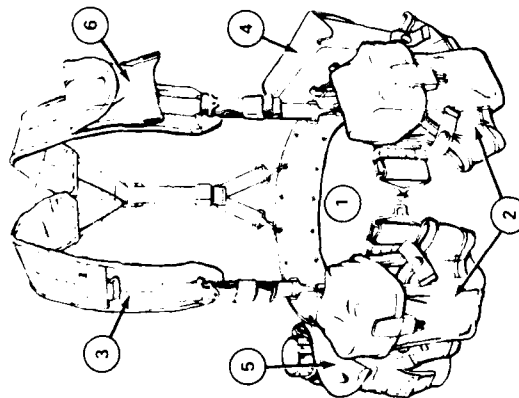
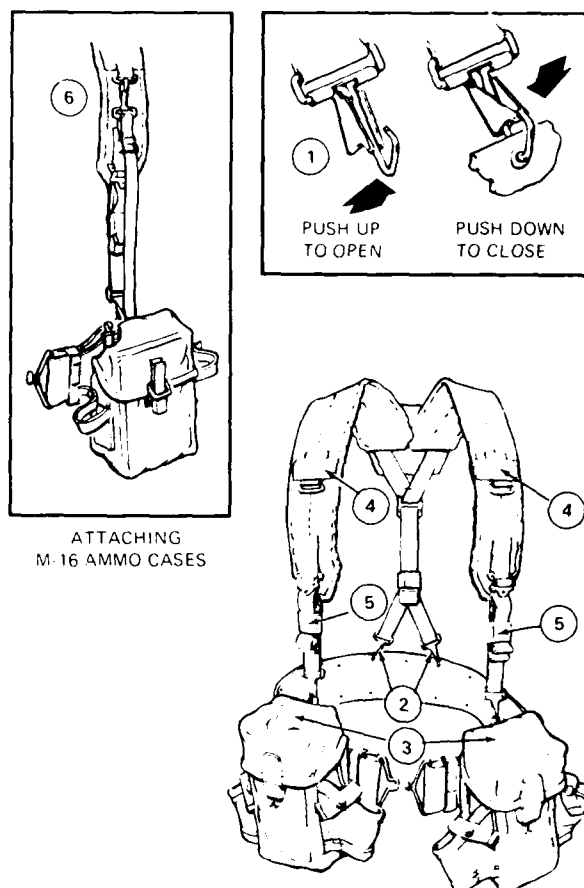

Figure 2-2.—Load carrying equipment.
Figure 2-5.—Attaching the suspenders to the ammo pouches and pistol belt.
Fighting load-carrying equipment consists of the items illustrated in figure 2-2 and described below. Each item has been designed to make the job of carrying the equipment you will need easier and more comfortable. There are certain rules, however, that must be followed if the equipment is to do the job for which it is intended. If the rules listed below are followed, individual loads can be carried with more ease and comfort.
1. Pistol Belt (item 1 of fig. 2-2). The olive drab cotton-webbed pistol belt, M1956, has a special ball-type fastener which makes the belt easier to put on and take off. The belt uses eyelets for attachment purposes and has sliding keepers to prevent the belt hooks from becoming unfastened after adjustment to the wearer's waist. The pistol belt helps to carry the entrenching tool and carrier, the ammunition pouches, the canteen and cover, and the first aid or compass case. It is issued in two sizes, medium and large. Medium is the size for waist measurements under 30 inches; large is the size for waist measurements of 30 inches or more. The proper-sized belt can be adjusted to fit over all layers of outer clothing including the armored vest.
2. Ammunition Pouches (item 2 of fig. 2-2). Each small arms ammunition pouch is 4 1/4 inches wide, 6 1/4 inches high, and 2 1/2 inches deep. Plastic stiffeners are provided in the back of each pouch so that clips of ammunition can be easily inserted and removed. There are two attaching clips and supporting straps on the back of the pouch so that they can be fastened to the pistol belt and to the suspenders. (See fig. 2-5.) Both sides of each ammunition pouch have attachments for carrying hand grenades. The pouches are designed to carry any of the basic loads of ammunition; however, with special
3. Suspenders (item 3 of fig. 2-2). The olive drab, cotton-webbed suspenders, with the pistol belt, make up the basic individual fighting load-carrying equipment as the remaining components are suspended from them. The suspenders can be adjusted by means of the clamp-type buckles. Suspenders are issued in three sizes: regular, long, and extra long. If you are under 68 inches tall without shoes, wear the regular size. If over 68 inches, wear the large. If you are tall or broad chested, or intend wearing them over outer garments or the armored vest or both, wear the extra large. In any case, if you have the time, you should try them on first.
4. Entrenching Tool Carrier (item 4 of fig. 2-2). The entrenching tool carrier is made of olive drab, cotton duck material and is attached to the pistol belt by means of two attaching clips located on the back.
5. Canteen Cover (item 5 of fig. 2-2). The cotton duck canteen cover has either a pile or felt lining and is attached to the pistol belt by means of two attaching clips located on the back of the cover. The canteen cover accommodates the canteen and canteen cup. During warm weather, the lining should be kept wet to help keep your water cool. The cover should be kept dry during cold weather, as the lining provides some protection in preventing the water inside from freezing.
6. First Aid Case (item 6 of fig. 2-2). The cotton duck first aid case is attached to the pistol belt by means of a clip located on the back. The case is closed by means of a flap which is secured by a glove-type fastener. The first aid case is used either to carry a field dressing or an unmounted magnetic compass.
The following six steps in attaching the suspenders to the ammunition pouch and belt correspond to the six actions depicted in figure 2-5.